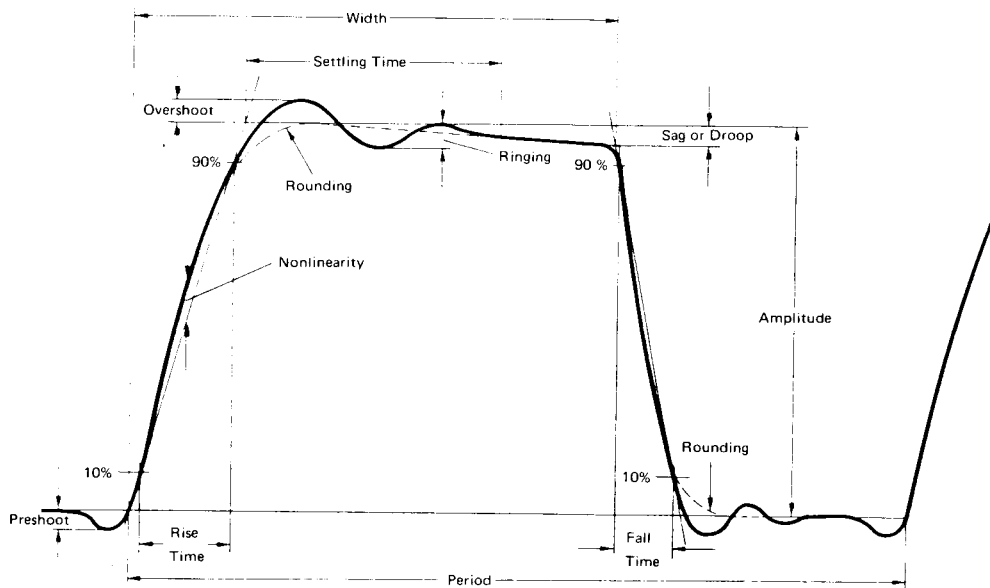

Figure 4-7. Pulse Parameters
3. Set scope so that one cycle fills the display (Figure 4-7).
4. Verify leading edge non-linearity (Figure 4-7) $< \pm 1\%$ of amplitude.